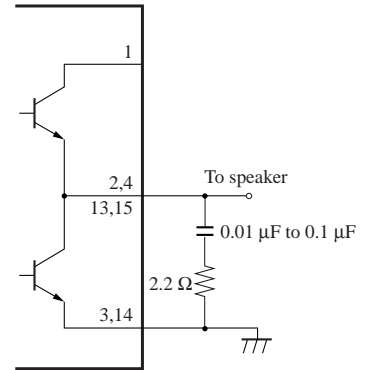

Figure 2
- 1) In order to increase the oscillation allowance, it is unnecessary to use a capacitor and a resistor between each output terminal and GND. However, when inserting the capacitor for counter-measures against output line noise between the output terminal and GND, insert a resistor of approx. $2.2\ \Omega$ in series as shown in figure 2. The oscillation may occur if only capacitor is used. Use it after giving a sufficient evaluation